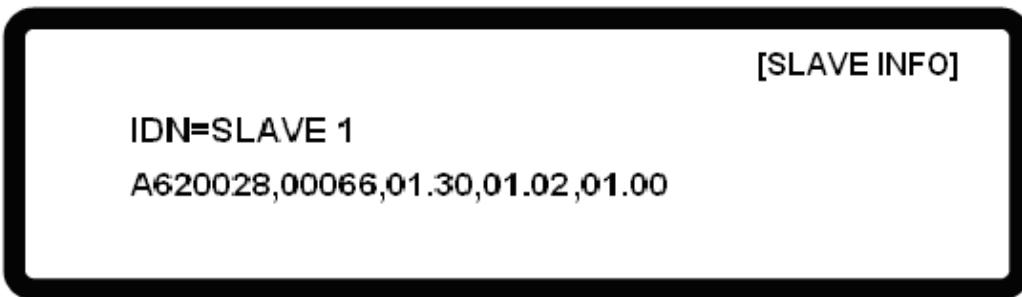

Figure 3-102
1. The A620028/A620027 SLAVE models must be calibrated through the MASTER unit. First execute the steps described in sections 3.3.3.3.2 to 3.3.3.3.5 and return to the main screen when the parallel setting is done. Press Config, “**3**” then “**ENTER**” to enter into the SERIES/PARALLEL selection. Use the “**←↑**”, “**↓→**” keys to move the cursor to PAGE2 and select IDN using the “Rotary Knob” (◎) as shown in Figure 3-102. Confirm the ID address of the SLAVE to be calibrated. The yellow light on the panel of the selected SLAVE will blink.